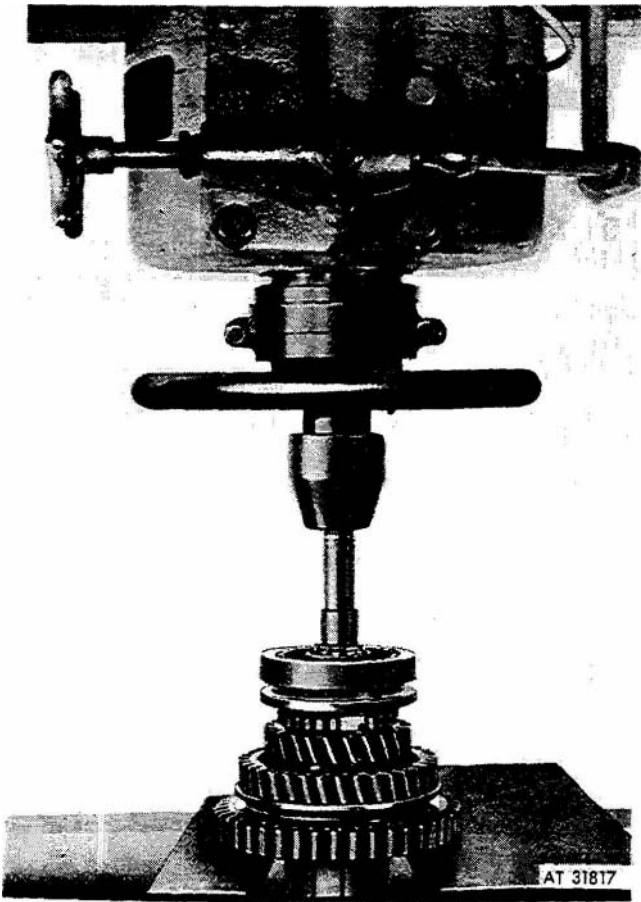

Figure 3-21. Disassembly of mainshaft assembly.
(28) Support mainshaft assembly on first and reverse sliding gear (13) in a suitable press and, using a suitable adapter smaller in diameter than the mainshaft pilot, carefully press mainshaft through gear cluster catching shaft before it drops (fig 3-21).